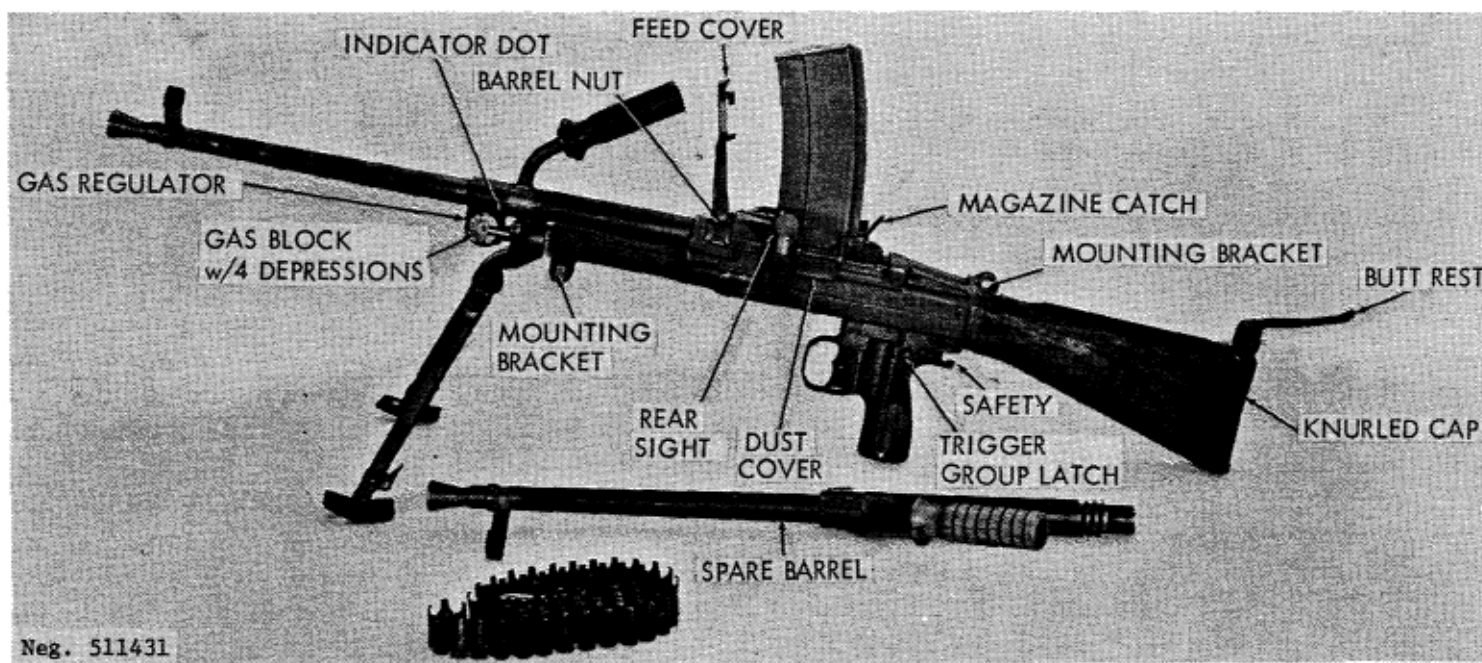
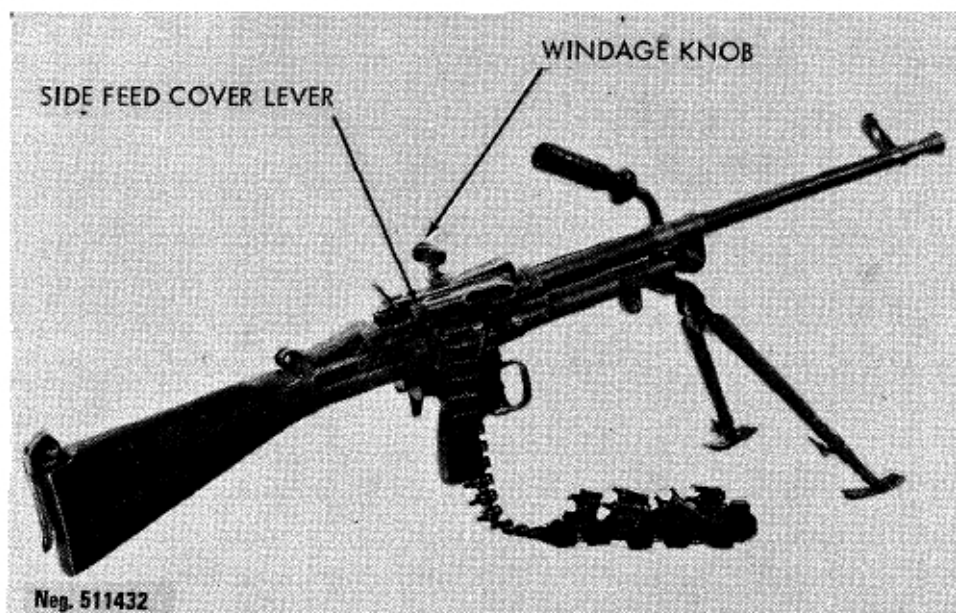
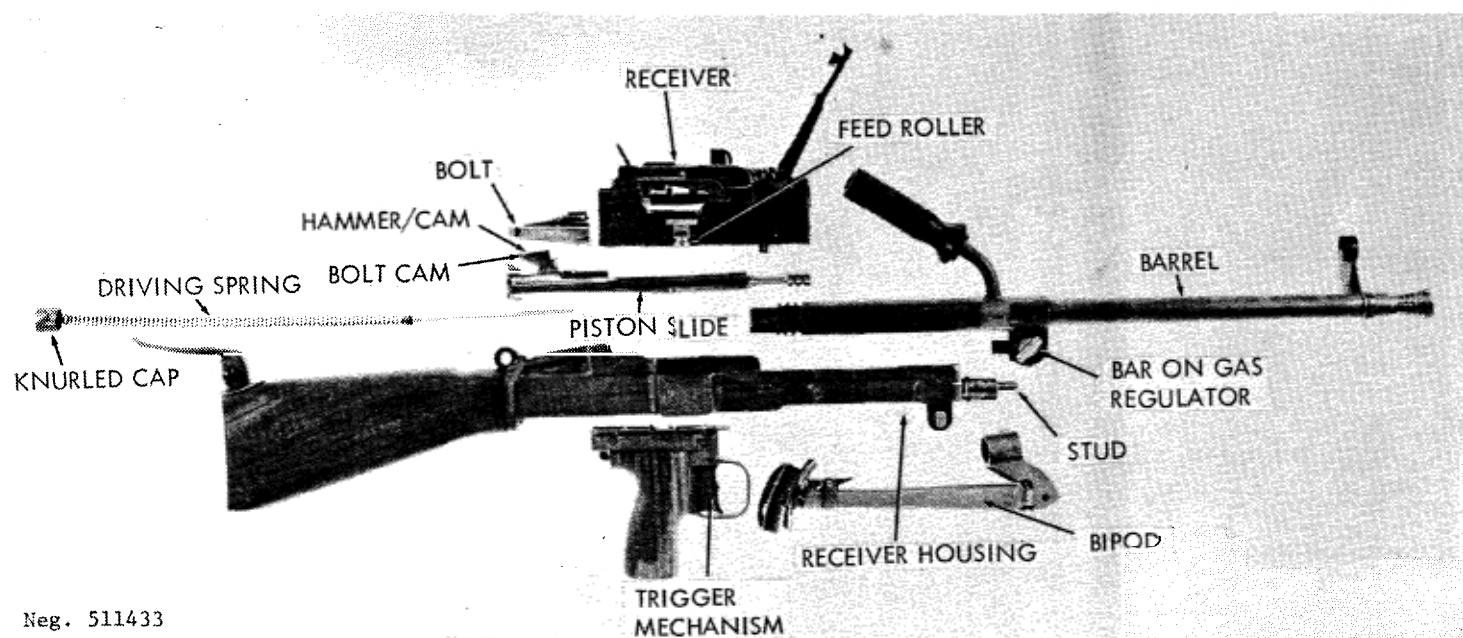

Figure 132. Czechoslovak Vz52 light machinegun w/box magazine.
Figure 133. Vz52 light machinegun, belt-fed.
Figure 134. Vz52 field stripped.
a. The Czechoslovak-design and -produced Vzor 52 and Vzor 52/57 light machineguns (figs 132 and 133) are identical, except for the minor alterations required by the different
a. These guns can be fed from box magazines or metallic-link feed belts. If box magazines are used, close the dust cover (fig 132), force the side feed cover lever (fig 133) fully down, and press the magazine catch forward until the feed cover springs open. The box magazines are loaded by placing a cartridge between the feed lips and pressing the cartridge down until it rolls under one of the lips. Repeat this action until 25 cartridges have been loaded. Engage the lip at the front of the magazine with its recess in the magazine opening of the receiver, and rock the magazine back until the magazine catch snaps into place.
b. If the metallic-link belt is to be used for feeding, load it by sliding cartridges into its loops until the tail of each link rests against the cartridge case base. The tab must be behind the base and not engaged with the cartridge case groove. Close the feed cover (fig 132), open the small left-side dust cover, and raise the knurled end of the side feed cover lever (fig 133) to open the feedway entrance. The top of the lever should be aligned with the top of the feed cover. The belt must be loaded with the open side of the links facing down. Insert the lead tab into the feedway and out of the small opening on the left side. Vigorously pull the lead tab to the left as far as possible to seat the first round in the holding pawls.
c. Prior to cocking the machinegun, the trigger group can be either forward or rearward, and may be locked in place by the safety (fig 132). Unlock the safety by pressing it down. If the trigger group is in its forward position, draw it rearward (without touching the trigger) until it catches. If it is rearward, depress the conical trigger group latch (fig 131), slide the trigger group forward as far as possible, release the latch, and, without touching the trigger, draw the trigger group to the rear until it latches in place.
f. Adjust the rear sight for the desired range by rotating the serrated nut under the rear sight until the figure that corresponds with the range in hundreds of meters is aligned between the pointers above the serrated nut. Windage adjustments can be made by turning the windage knob at the left of the rear sight (fig 133).
g. To fire the machinegun, press the safety (fig 132) down; then aim, using a normal sight picture, and press the trigger. If the
h. To unload or clear the gun when a box magazine has been used, press the magazine catch toward the magazine; then tip the magazine forward and remove it. If belts have been used, press the magazine catch and allow the feed cover to swing open; then rotate the side feed cover lever (fig 133) up and forward until the side feed cover swings open. Lift the belt up and out of the gun.
k. Adjust the gas regulator (fig 132) to give positive functioning at its lowest setting. The gas regulator has four different sized dots drilled into its left side, and the gas block has a single dot drilled into it. One of the dots on the regulator must be aligned with the dot on the gas block. The size of the particular dot indicates the relative size of the gas port in use. Normally, the smallest port is used with box magazines and the second smallest port is used with belts. If there is a loss of operating power, adjust the gas regulator to its next larger port. Remove the barrel and rotate the regulator in the gas block until the next larger dot aligns with the dot on the gas block. Replace the barrel.
(1) Clear the weapon (paras 169 h and i) but do not close the feed cover or set the safety on safe. Pull the trigger and draw the trigger group to the rear; then remove the barrel.
(2) Lift the butt rest (fig 132) and press in and rotate (counterclockwise) the knurled cap under the butt rest (fig 132) until the cap disengages and can be eased out to the rear. Pull the driving spring and rod out of the buttstock.
(3) Reach into the channel in the front of the receiver housing (fig 134) and move the piston to the rear until it is just clear of the gas cylinder. Grasp the receiver at the barrel nut and pull it up out of the receiver housing. Make certain that the piston and bolt do not accidentally drop out of the receiver.
(4) Slide the piston and bolt rearward, out of the receiver. Lift the rear end of the bolt up and pull it toward the rear; then lift it off the slide. It may be necessary to press up the serrated catch at the right front end of the receiver to release the slide.
(5) Rotate the gas regulator until the bar on its right side (fig 132) lines up with the notches in the gas block; then press the regulator to the left, out of the block.
(6) No further disassembly is necessary or desirable.
e. When the sear releases the slide, the compressed driving spring forces the slide, piston, and bolt forward. The feed rib on the bolt strips a cartridge from the magazine or belt and drives it into the chamber. The cartridge rim seats in the fixed extractor at the bottom of the bolt face; the movable extractor then keeps the round in position. When the cartridge is fully seated in the chamber, the bolt stops its forward motion. The slide continues to move forward, and the combined hammer and cam (fig 134) force the rear of the bolt up into its locked position. In the last forward travel of the slide, the hammer strikes the firing pin to fire the cartridge.
g. The belt is fed into the gun by a laterally reciprocating belt-feed lever. This lever is mounted vertically on the receiver, with a pivot halfway along its length. A roller (fig 134) on the bottom of the lever rides along a cam on the piston slide, and, as the slide moves rearward, this cam forces the upper end of the lever inward. This movement feeds the belted cartridge into the gun against a pair of positioning stops on the feed cover. As the slide moves forward, a second cam forces the feed lever out, and, as the slide moves, a spring-loaded pawl on its upper end is